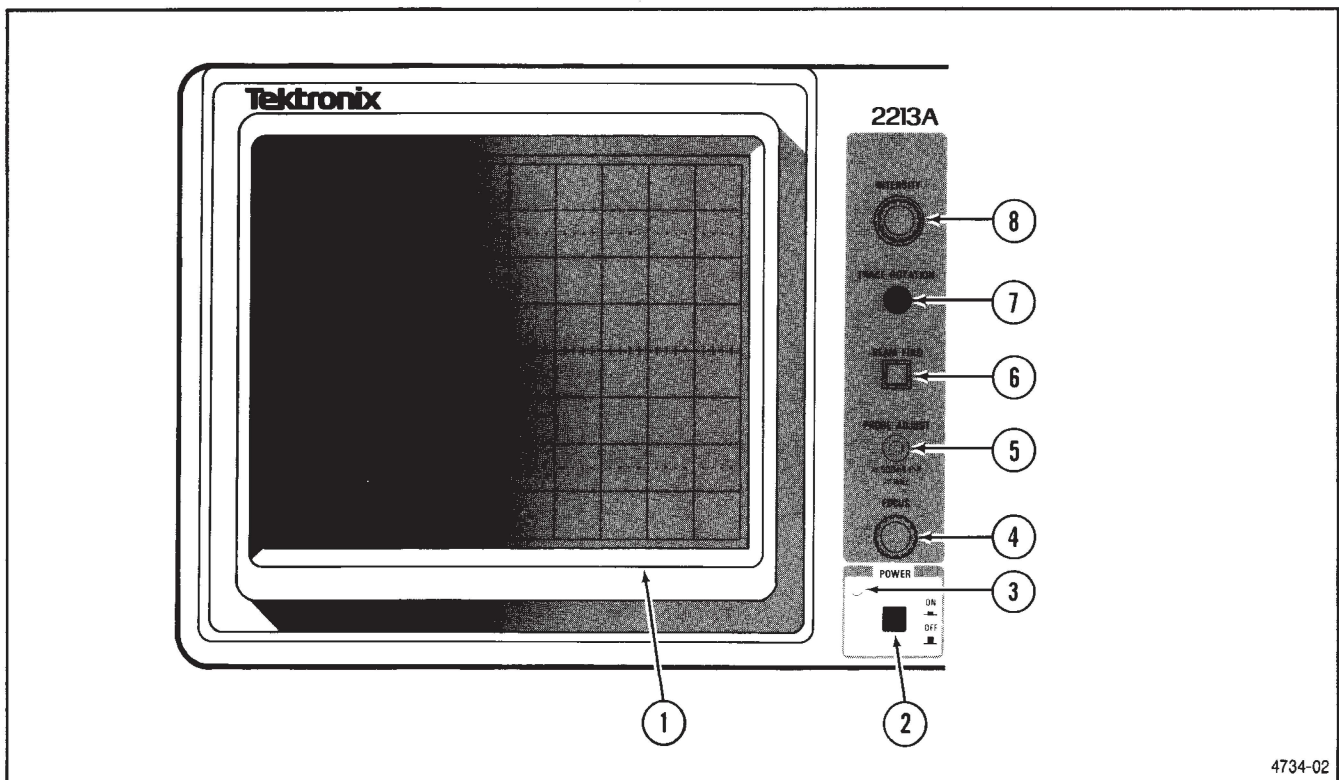

Figure 2-3. Power and display controls and indicators and PROBE ADJUST output.
Refer to Figure 2-3 for location of items 1 through 8.